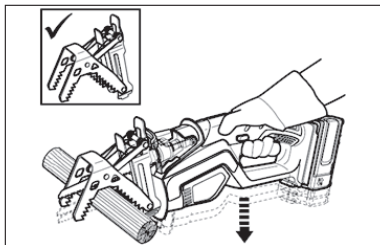

Fig. 17
4. Slowly lower the saw blade into the workpiece applying light pressure downward (Fig. 17).